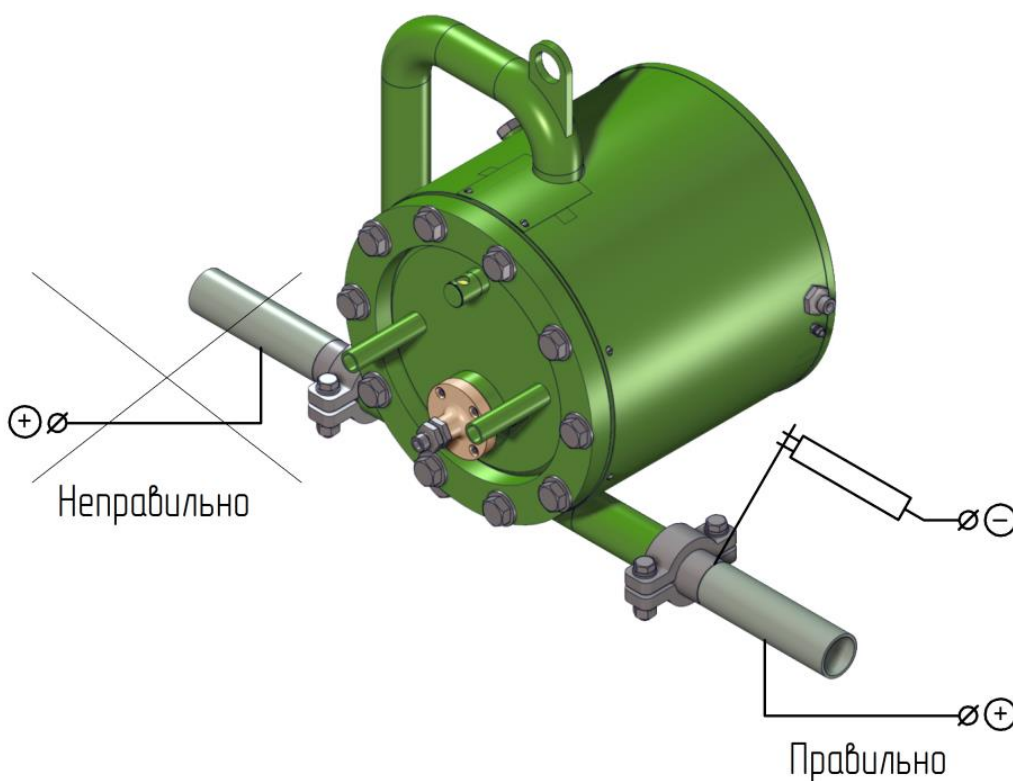

Fig.2.2 - Power supply connection for arc-welding
- for arc-welding power source is connected so that current does not flow through the meter - see fig.2.2.